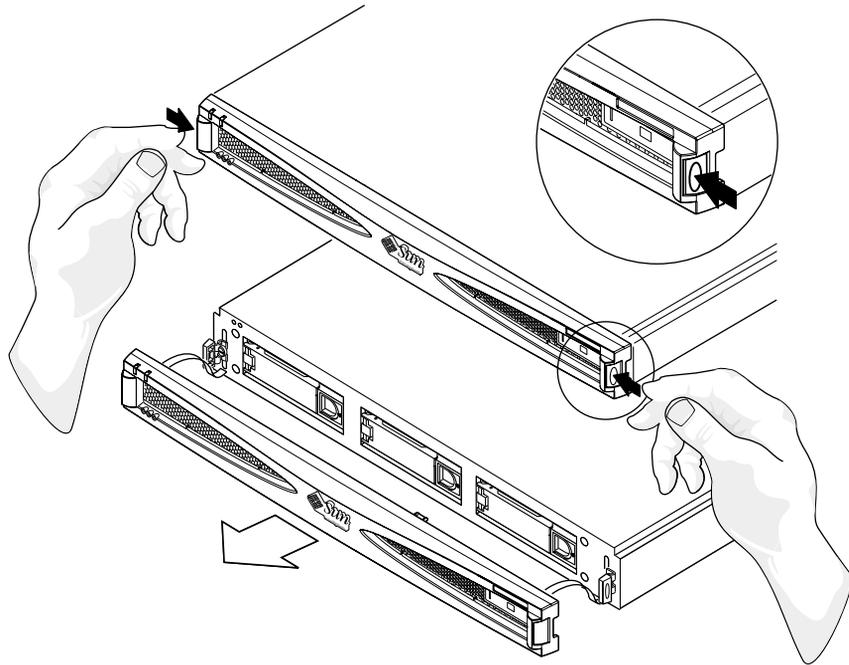

FIGURE 1-7 Removing the Front Bezel
- **Release the front bezel by pressing the latches on both ends and pulling the bezel away from the array (FIGURE 1-7).**